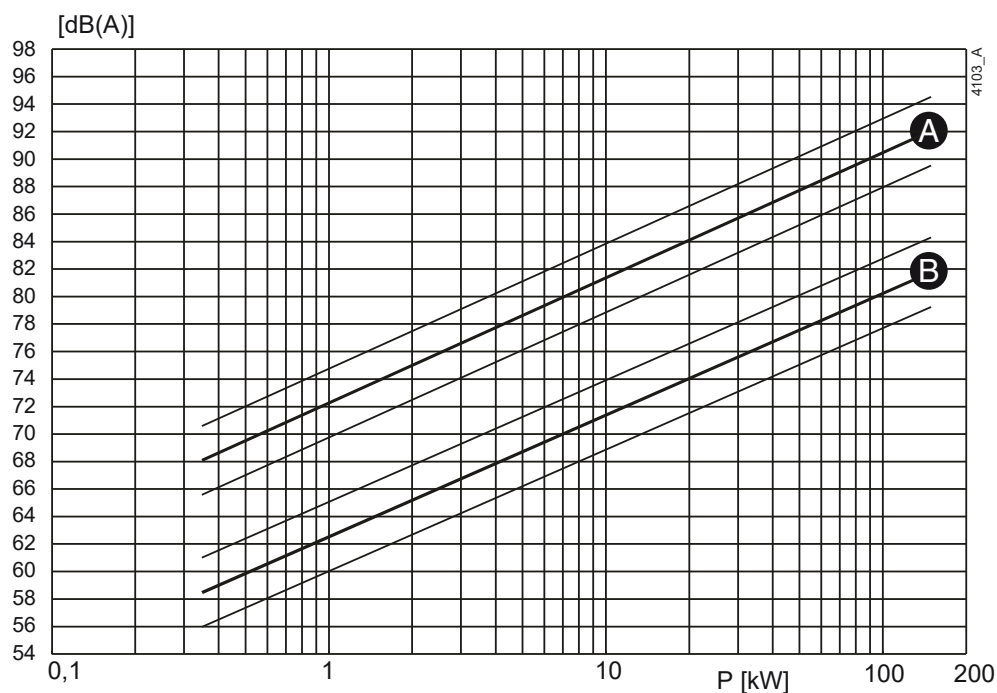
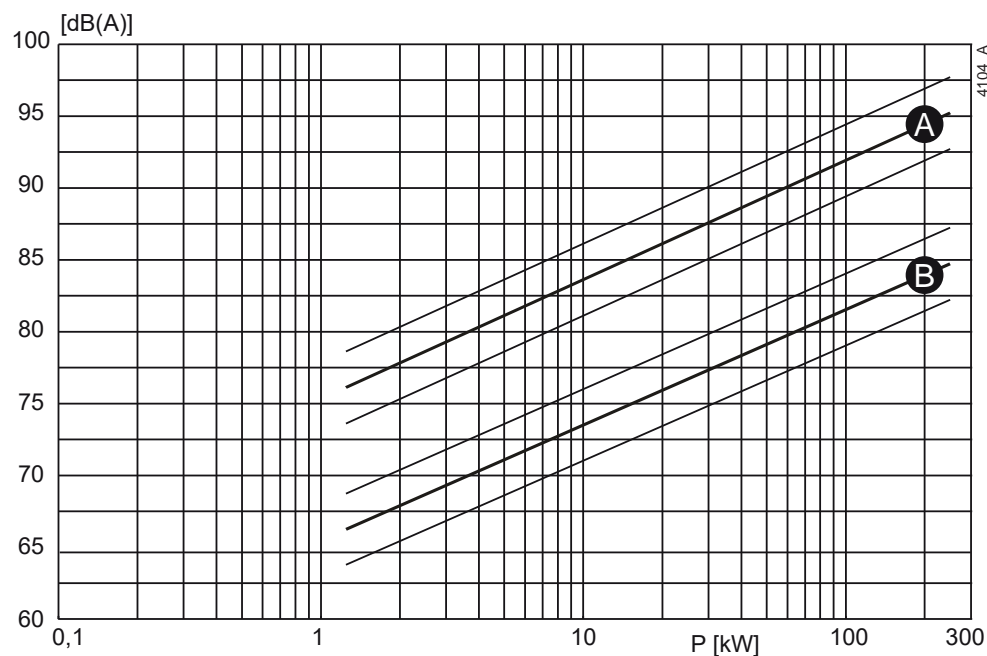

Figure 40: Noise level as function of pump power [kW] at 1450 min-1
Figure 41: Noise level as function of pump power [kW] at 2900 min-1
- 1 Determine the noise level (L1) of the pump, see figure 40 or figure 41.